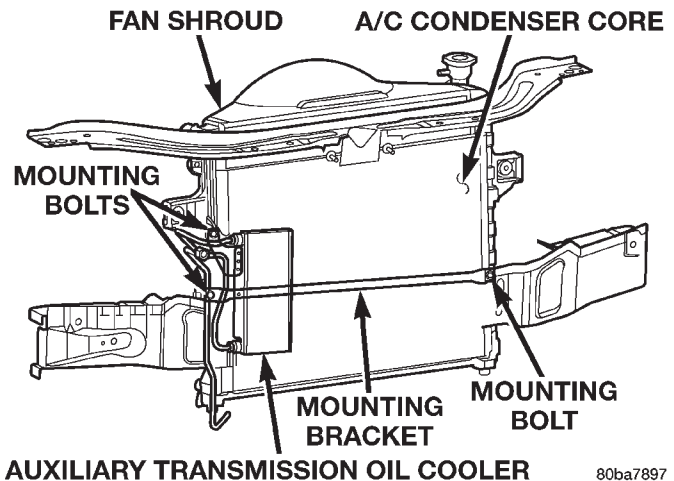
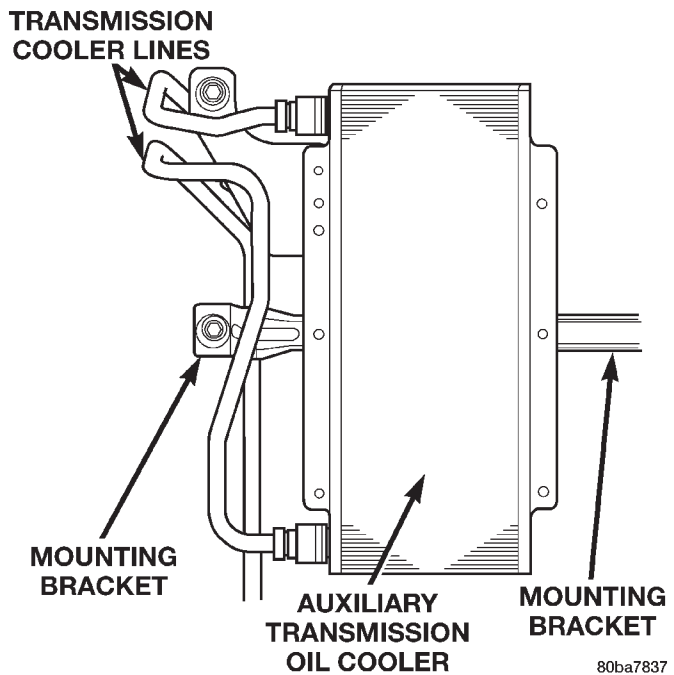

Fig. 25 Oil Cooler Mounting Brackets—Typical
Fig. 26 Oil Cooler Hoses—Typical
- (5) Remove two bracket bolts and three brace bolts (Fig. 25).
- (6) Remove the retaining clip from the cooler lines (Fig. 25).
- (7) Place a drain pan under the cooler.
- (8) Disconnect the upper hose clamp at cooler line (Fig. 26). Separate the line from the rubber hose.
- (9) Position the cooler to gain access to lower hose. The cooler lines are routed through a rubber seal located on the side of radiator. Be careful not to cut or tear this seal when positioning cooler for lower hose removal.
- (10) Remove lower hose clamp and hose from cooler.
- (11) Remove cooler from vehicle.
- (1) Position cooler to vehicle.
- (2) Install lower hose and hose clamp to cooler. Hose clamp screws must be facing towards rear of vehicle. Tighten clamp to 2 N·m (18 in. lbs.) torque.
- (3) Install upper hose and hose clamp at cooler. Hose clamp screws must be facing towards rear of vehicle. Tighten clamp to 2 N·m (18 in. lbs.) torque.
- (4) Install brace and mounting bracket bolts (Fig. 25).
- (5) Connect negative battery cable to battery.
- (6) Add necessary transmission fluid. Refer to Group 21, Transmissions. Start engine and check for leaks.
- (7) Install grill opening reinforcement panel, bumper fascia and grill. Refer to Group 23, Body.